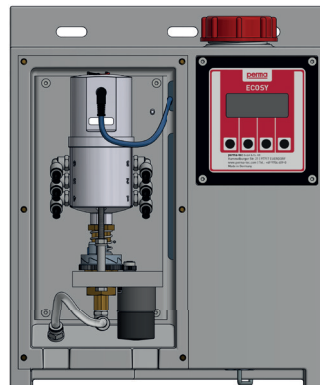

Fig. 3-2 Pump and distributor
- Insert tube ends into lubricant outlets (7, Fig. 3-2) and make sure they are tight and secure.